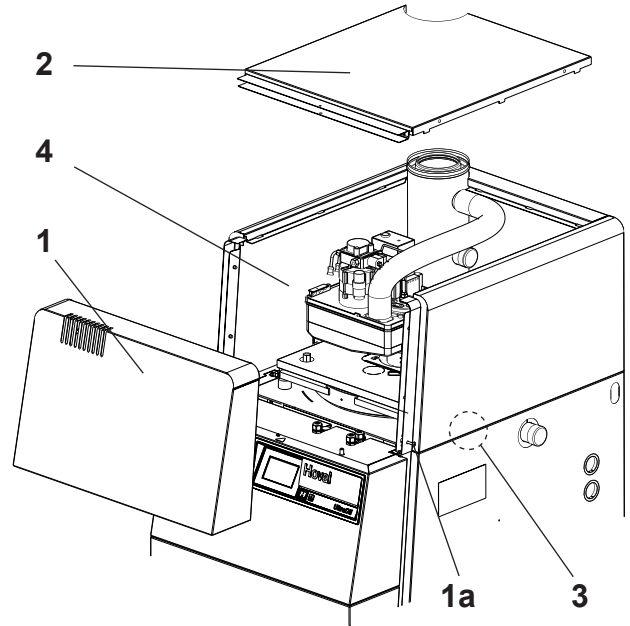

Fig. 05
1. Remove front cover (1, Fig. 05), after first releasing the lateral locking bolt (1a) (turn approx. ¼ turn to the left and pull out as far as the stop). Lift the front cover (1) straight upwards and remove towards the front.
2. Lift and remove the lid (2).
3. Remove the locking screw (3) on the left and right.
4. Lift the side walls (4), by sliding them slightly towards the front.
15. Reattach the side walls (Fig. 05), locking screws (3), lid (2) and front cover (1).